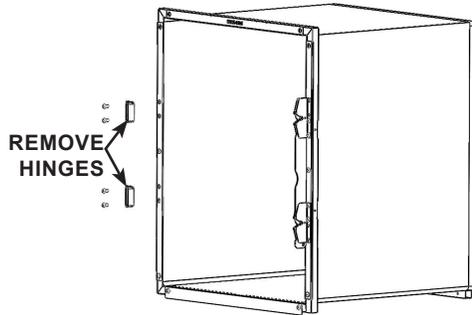

FIGURE 3.9 - Hinge Assembly Removal
STEP 2: Remove the hinge assemblies from the left side of the cage frame by removing the screws. See FIGURE 3.9